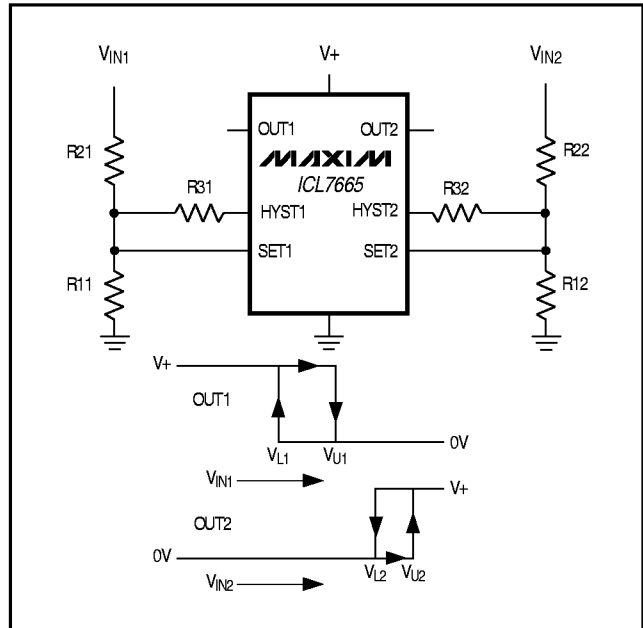

Figure 4. Threshold Detector with Hysteresis
Figure 4 adds another resistor to each voltage detector. This third resistor supplies current from the HYST output whenever the V_{SET} input is above the 1.3V threshold. As the formulas show, this hysteresis resistor affects only the lower trip point. Hysteresis (defined as
- Figure 4**